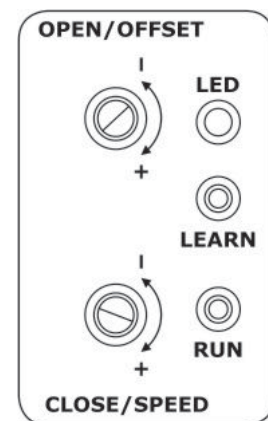

Fig. 17
- Press and hold down the “Learn” Button (Figure.17) for two seconds - LED Indicator will commence a paused double flash.
- With the garage door in the fully closed position, press the black “Run” Button (Figure.17) so that the garage door begins movement in the open direction
- While the garage door is opening slowly, turn the (green) Open / Offset Adjustment Pin (Figure.17) in an anti-clockwise direction until the garage door stops
- With the garage door in the fully open position, press the black “Run” Button (Figure.17) so that the garage door begins to close
- While the garage door is closing, slowly turn the (red) Close / Speed Adjustment Pin (Figure.17) in an anti-clockwise direction until the garage door stops and begins to Safety Reverse
- Press the black “Run” Button (Figure.17) so that the garage door begins to open